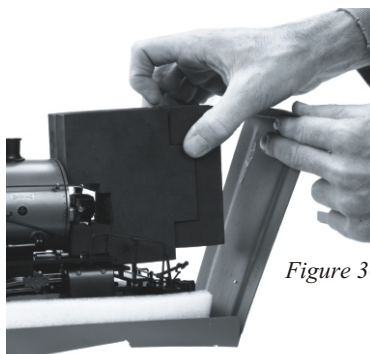

Figure 30
18. Insert the black foam block in front of the smokebox, around the headlight as shown in Fig. 30.